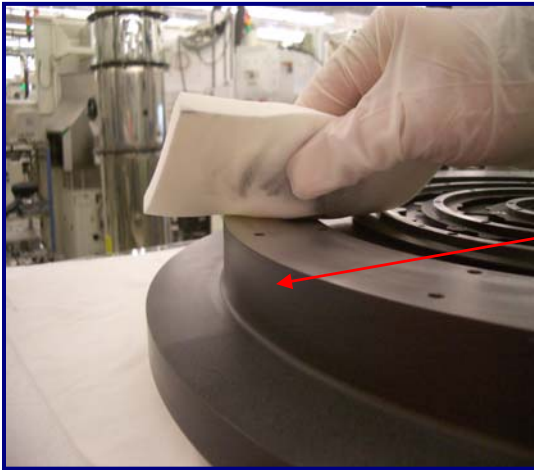

Fig 7: Lightly dampened UltraSOLV® Sponge removing loose buildup on top of hot plate
Step 7: Using the lightly dampened UltraSOLV® Sponge wipe away the buildup as it becomes loose on top of the hot plate (See Fig 7)